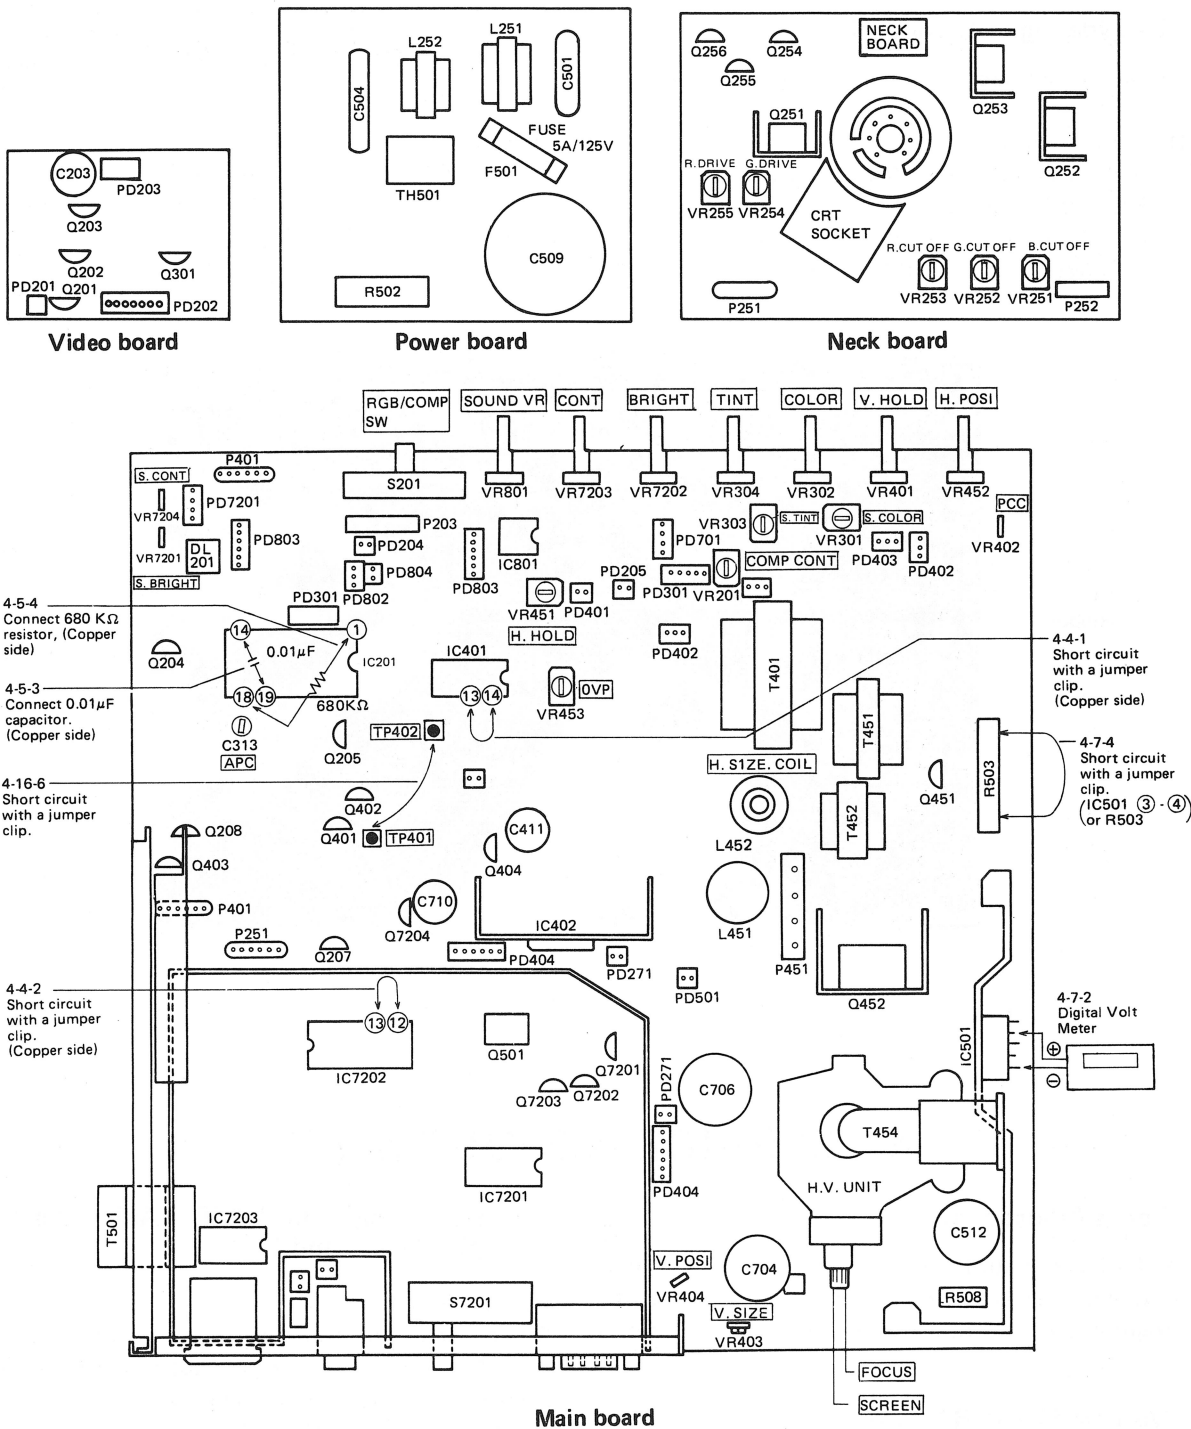

Fig. 10
1. Short circuit IC401 (13) and (14) with a jumper clip. See Fig. 10.
2. Short circuit IC7202 (12) and (13) with a jumper clip. See Fig. 10.
#### 4.5 APC Adjustment (See Fig. 10)
#### 4.7 Over Voltage Protector Control (VR453) Adjustment (See Fig. 10)
#### 4.8 Vertical Position Control (VR404) Adjustment (See Fig. 10)
#### 4.7 Commande de protection contre la surtension (VR453) Réglage (Voir la fig. 10.)
#### 4.9 Horizontal Size Adjusting Coil (L452) (See Fig. 10)